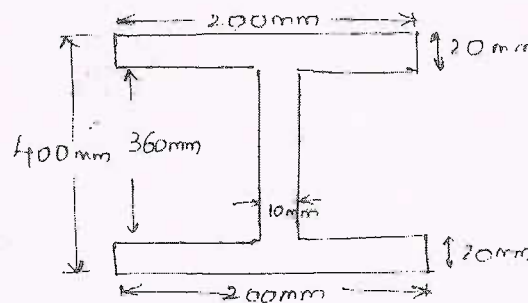

Fig. Q9 (c)
- c. A rolled steel joint of I-section has the dimensions as shown in Fig. Q9 (c). This beam of I-section carries a UDL of 40 kN/m run on a span of 10 m. Calculate the maximum stress produced due to bending.